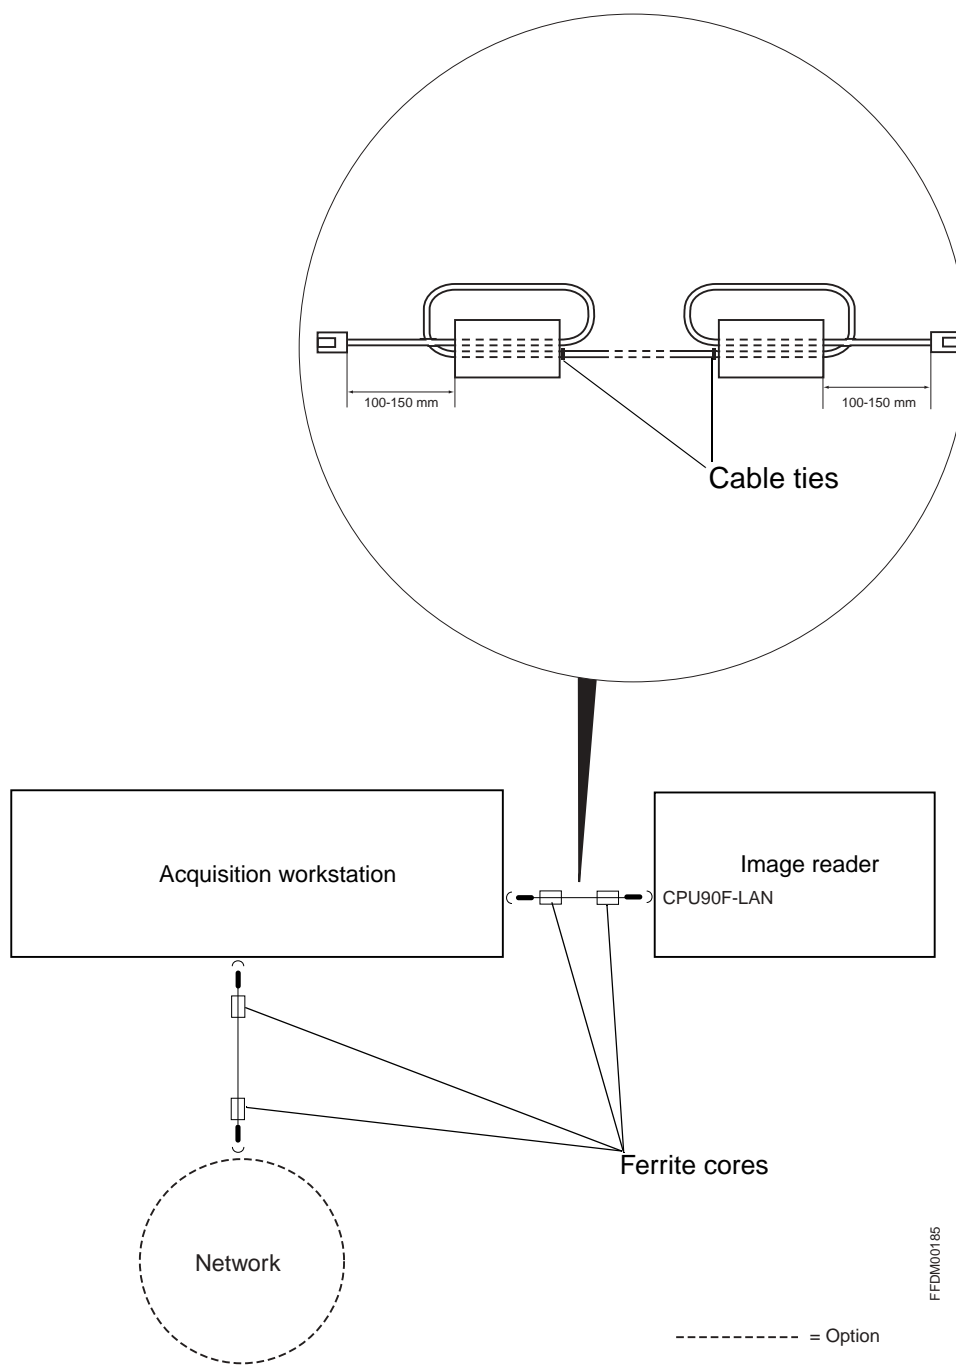

Fig. 6
- Mount ferrite cores on the acquisition workstation-image reader cable and the acquisition workstation-network cable. The ferrite cores shall be placed 100-150 mm from the connectors according to Fig. 6. Fasten with cable ties.